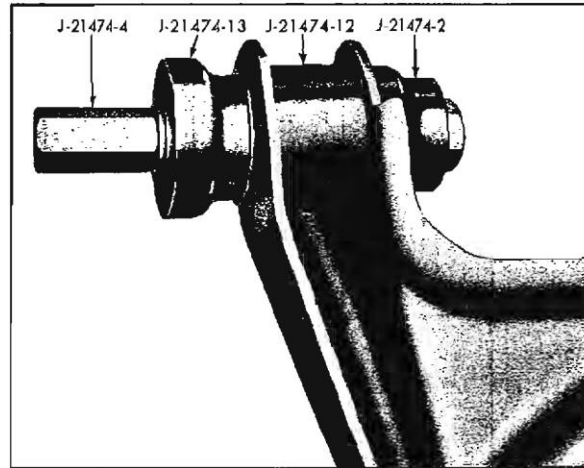

Fig. 3-21 Installing Bushing in Control Arm
4. Install new bushing in control arm, using components of tool J-21474 as shown in Fig. 3-21.